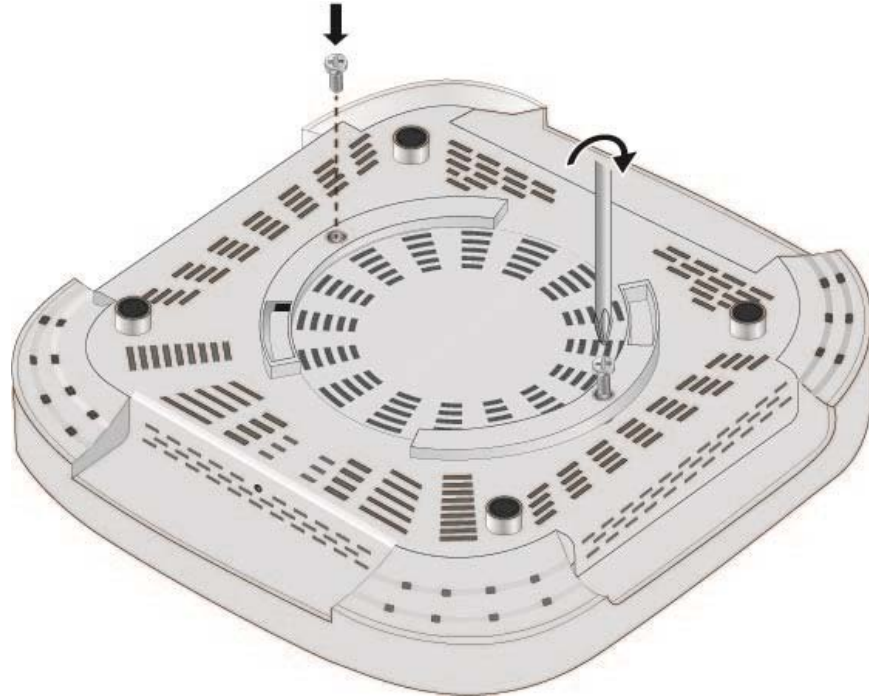

Figure 14. Installing the Mounting Bracket Screws in the Wireless Access Point
2. Install the two bracket screws fully into the bottom panel of the access point. Refer to Figure 14 on page 24. No adjustment of the screws is necessary. The collars provide the proper spacing for the mounting bracket beneath the screw heads.
2. Install the two bracket mounting screws provided with the wireless access point in the bottom panel of the device. Leave the screws loose enough so that you can slide the TQ bracket under the screw heads. Refer to Figure 14.